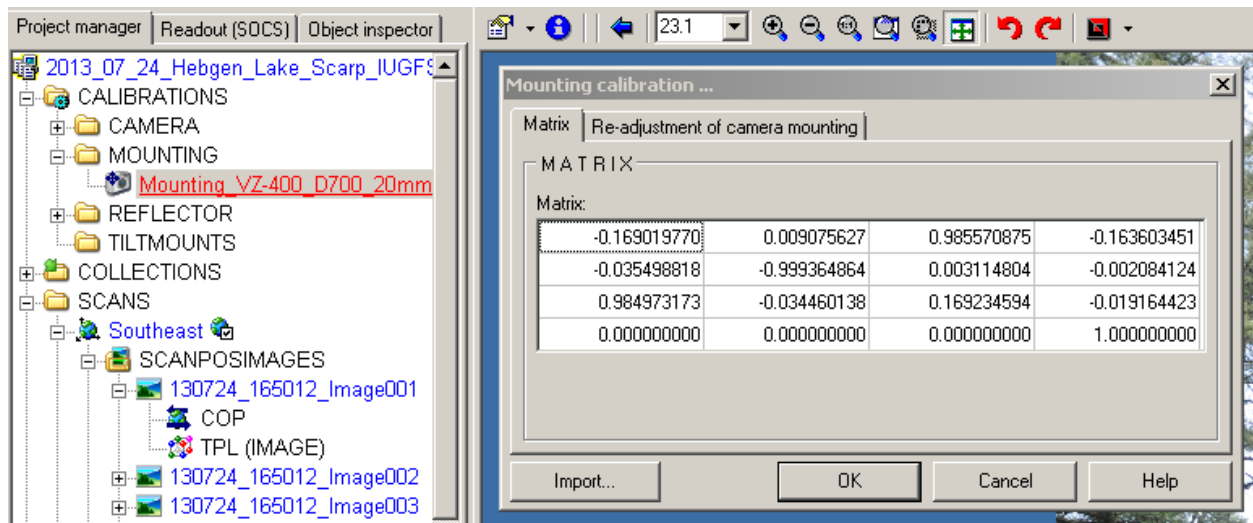

Figure 4. Image showing the Mounting Calibration Matrix to export.
- 7.1. *Export:* expand the "CALIBRATIONS" folder at the top of "Project Manager". Next expand the "MOUNTING" folder. Double click on the existing camera calibration file that will open a window displaying the current camera calibration matrix (Fig. 4). Right click in the matrix window and click "Export". Save to the project file. This will only need to be completed once per project. Use the file for all scan positions.